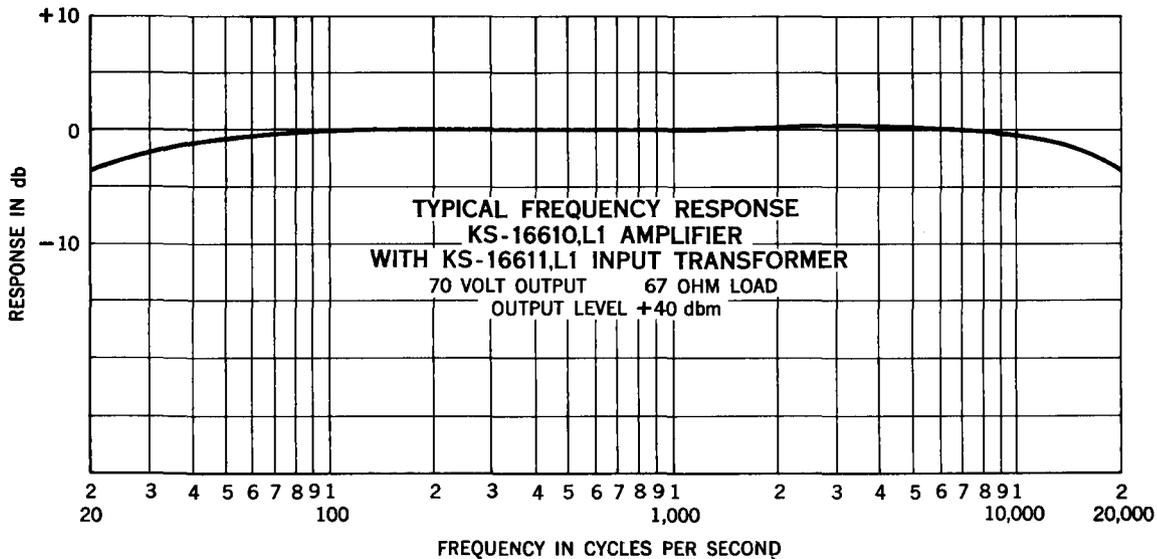

Fig. 7 - Frequency Response with Transformer Input
6.04 Fig. 7 shows the frequency response of the KS-16610, L1 Amplifier when it is equipped with a KS-16611, L1 Transformer. In most situations, the amplifier will be used with a transformer input.